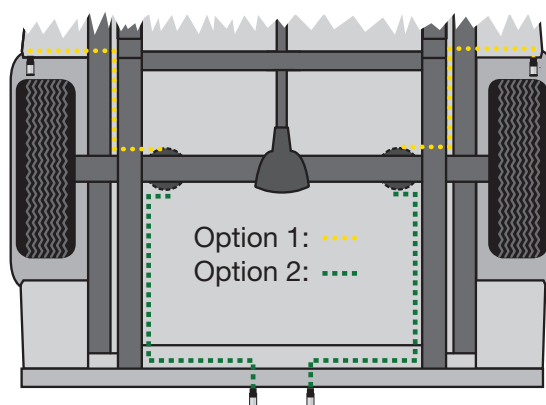

fig. 16
1. Choose a convenient location for mounting the inflation valves (Fig. 16). Popular locations for the inflation valve are:
- Route the air line along the frame to the fitting on the air spring (Fig. 16). Keep AT LEAST 6" of clearance between the air line and the exhaust system. Avoid sharp bends and edges. Use zip ties to secure the air line to fixed points along the chassis. Be sure that the tie straps are tight, but do not pinch the air line. Leave at least 2" of slack to allow for any movement that might pull on the air line.